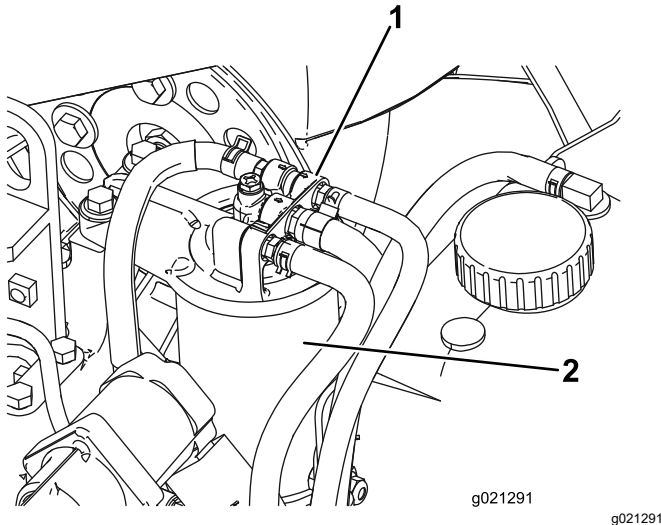

Figure 79
1. Clean the area around the fuel filter head (Figure 79).
2. Remove the filter and clean the filter head mounting surface (Figure 79).